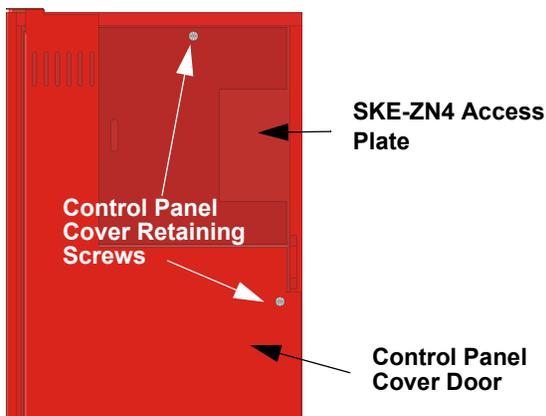

Figure 1: SKE-450 Cabinet With Control Panel Cover In Place
2. Open the control panel cover door by removing the two retaining screws and rotating the door to the left. See Figure 1.